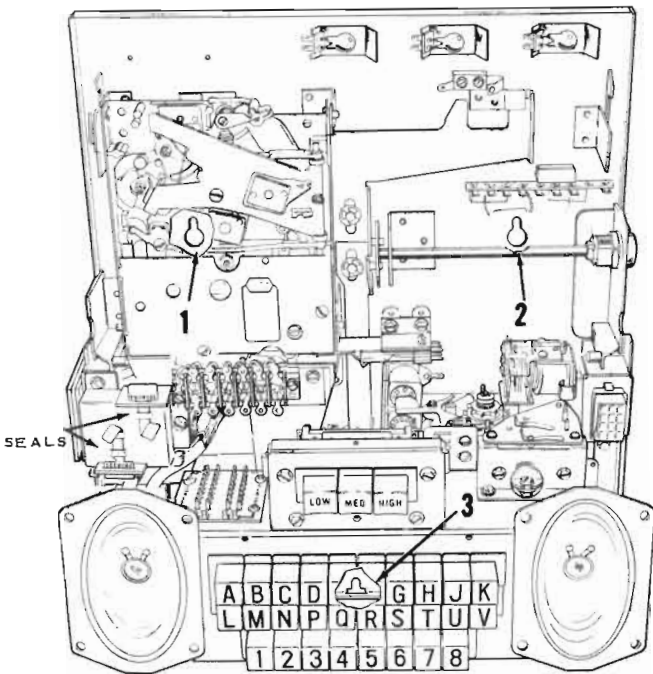

Figure 2. Interior View - Mounting and Seals..
The black and white wires of the interconnecting cable carry power to the lights and motor. The blue and black wires comprise a selection circuit to provide remote control of the selection system operation in the phonograph. The brown, red, and orange wires are for transmittal of coin deposit information to the income totalizer in the phonograph and their terminal board is covered and sealed as shown in *Figure 2*. The balance of wires in the cable are for audio and control of the stereo speakers in the Console.
There are three holes in the back plate for mounting, identified 1, 2 and 3 in Figure 2. The two upper holes are slotted for fitting over screws already set in the wall at the proper points. The lower hole is for rigidly mounting the Consolette by means of a screw, after it has been hung in place.
4. Replace the cover on the left hand terminal board; secure with two screws. Install one of the seals from the lower left side of the terminal board cover so that the serial number is right reading and fold the tab down at the score mark. Install the other seal from the upper right side of the terminal board cover and fold the tab up at the score mark. (See Figure 2).